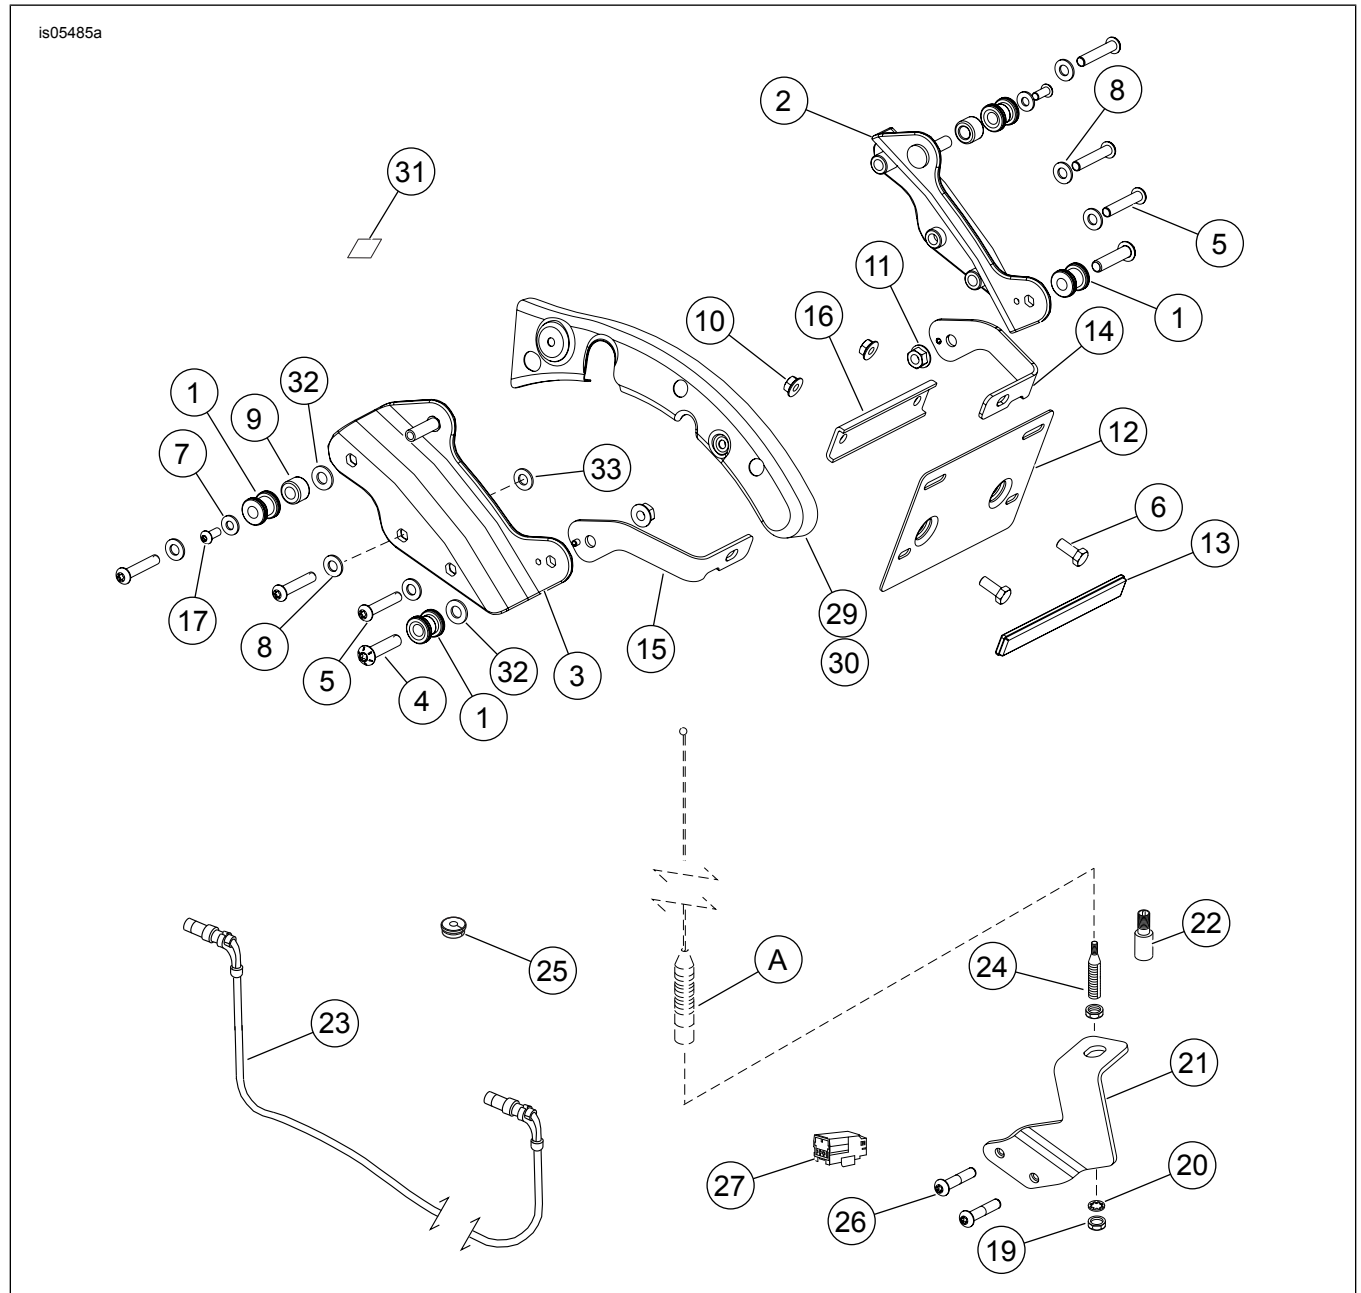

Figure 6. Service Parts, H-D Detachables Tour-Pak Kit
2. See Figure 6. Apply Loctite 262 to screw (5). Install **new** fender support cover (29) and docking point bracket (3) with screw (5), chrome washer (8) and silver washer (33). Tighten to 23 N·m (17 ft-lbs). Repeat for the opposite side with **new** fender support cover (30).
3. Loosely install left side bracket (15) to docking point bracket, inserting alignment pin in the docking bracket hole. Install docking point (1) with screw (4) and nut (11). Repeat to install right side bracket (14).
4. Loosely assemble the license plate holder (12) with screws (6), nuts (10) and bracket (16) to brackets (14 and 15).
6. Tighten screws (4) until snug.
7. Install the spacer (9), docking point (1), screw (17) and washer (7). Repeat steps for the opposite side. Tighten screws (17) until snug.
- b. See Figure 6. Remove two screws (17), washers (7), docking points (1) and spacers (9) from the forward docking point pins. Remove two screws (4), nuts (11) and docking points (1) from the rear docking point pins.
- c. Get two chrome washers (32) from the kit. Install one washer onto each forward docking point pin.
- d. Install the spacers (9) onto the forward pins.
- e. Install docking points (1, chamfer end **first**), washers (7) and screws (17). Tighten screws until snug.
- f. Install the remaining docking points (1, chamfer end **last**) onto screws (4). Install a chrome washer (32) from the kit onto each screw.
- g. Insert the screws through the holes in the docking point brackets (2, 3) and license plate brackets (14, 15). Fasten with flange nuts (11). Tighten screws (4) and flange nuts (11) until snug.
2. Install H-D Detachables Tour-Pak Rack per instructions. Once docking points are properly aligned and spaced, tighten two screws (4) and flange nuts (11) to 34 N·m (25 ft-lbs). Tighten two screws (17) to 14 N·m (125 in-lbs).
4. Tighten license plate holder screws (6) to 20–26 N·m (15–19 ft-lbs).
5. Remove adhesive backing from red reflector (13). Carefully center and align the reflector with the bottom edge of the license plate holder (12). Press firmly into place.
8. See Figure 6. Fasten the antenna cable to the saddlebag support bar with a cable strap (28) from the kit. Use a second cable strap to tie the antenna cable to the frame rail, near the suspension air lines, underneath the chrome cover. DO NOT secure the cable to the air lines.
3. See Figure 6. Cap the unused wiring connector with the connector housing (27) from the kit.
- See Figure 6. Thread the antenna adapter (22) onto the antenna mount joint assembly (24). Plug one end connector on the antenna cable (23) onto the top of the antenna adapter (22). Tighten the knurled nut to secure the connector. Route the other end up and through the 19 mm (3/4 in) diameter hole at the bottom front left side of the Tour-Pak. Plug the antenna cable into the Tour-Pak antenna base. Tighten the knurled nut. Make sure enough cable has been routed into the Tour-Pak. The cable must rest flat on the Tour-Pak bottom. Secure the cable with wire clips inside the Tour-Pak.
- Install the grommet (25) into the hole in the Tour-Pak.
- See Figure 6. Remove the antenna cable (23) from the top of the antenna adapter (22).
5. Install the antenna mast onto the antenna mount joint assembly (24).